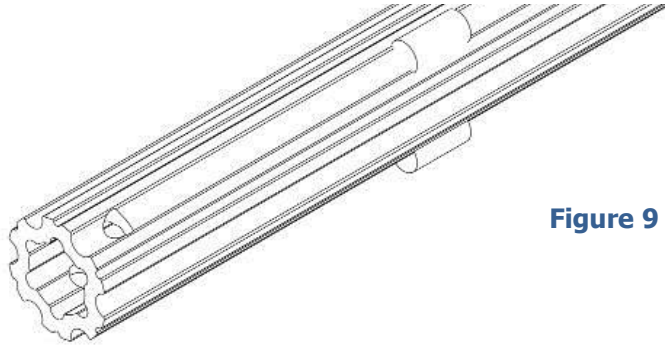

Figure 9
1. Locate the adapter extrusion 36940. Refer to figure 9.